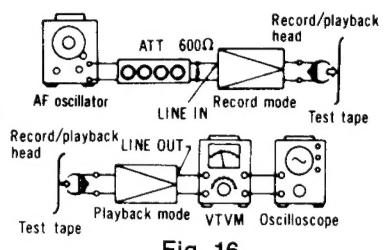

Fig. 16
1. Test equipment connection is shown in fig. 16.
8. Repeat from step (2).